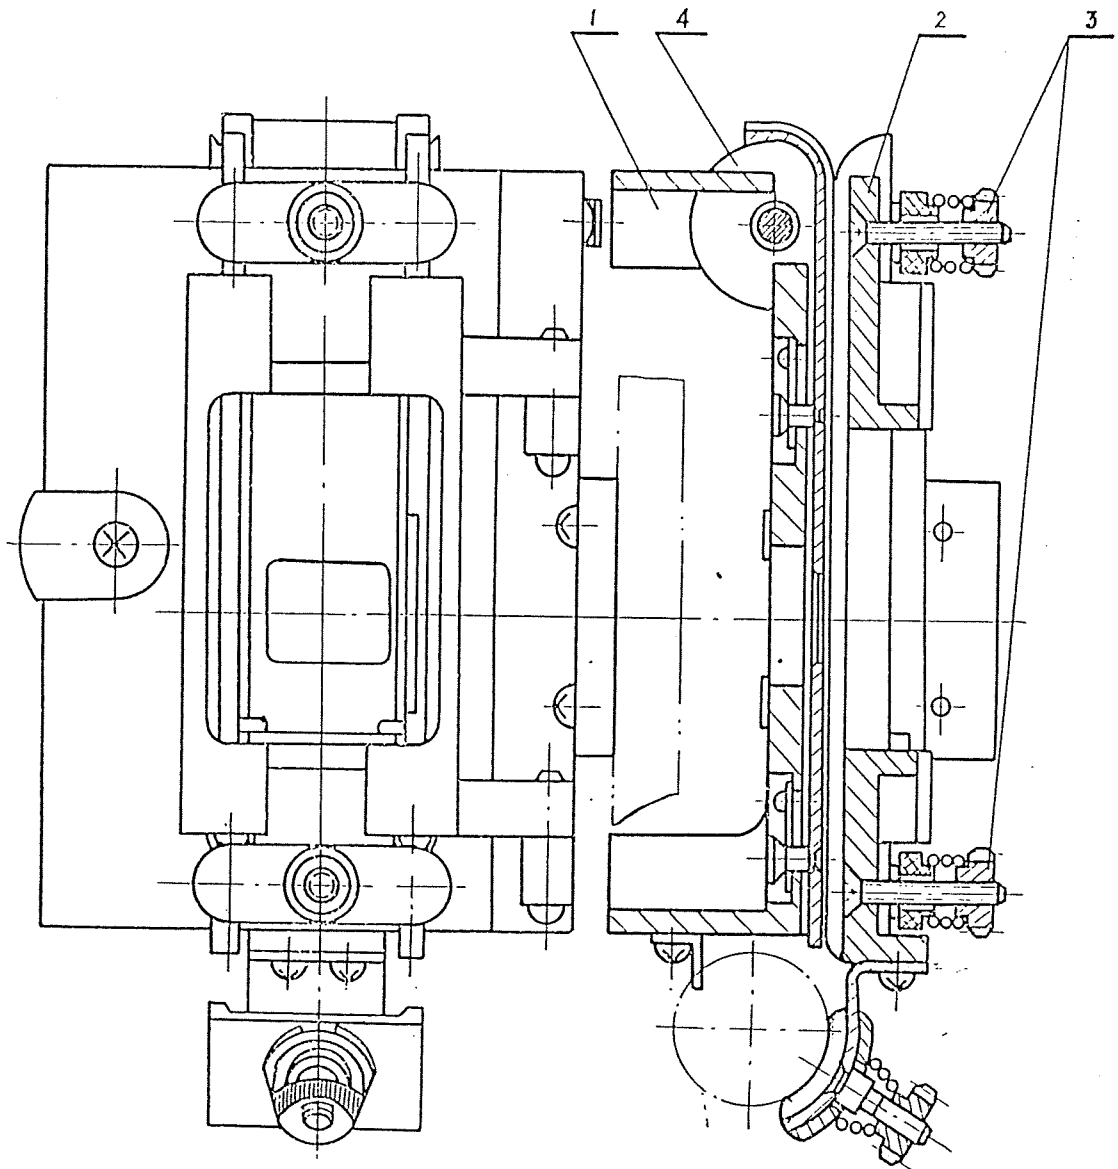

Fig. 8
The construction of the Film gate stand & cover is in serring type, easy for dismantling and clearing. When adjusting the tension of film gate, turn the nut(3) till the film tension is about 120-150 grams. A guide roller over the film gate is shown as Fig. 8, the roller could lead the film through the path correctly. Adjust the pressure of the tension shoe by turning the nut. If the tension